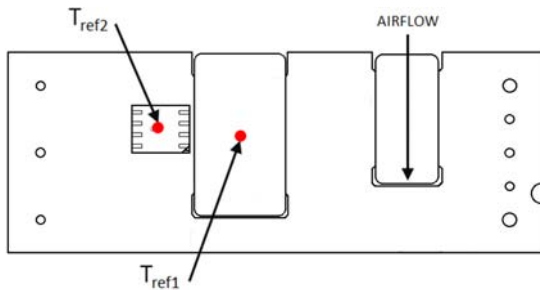

Figure 13. T_{ref} Temperature Measurement Location for open Frame Module.
To provide protection under certain fault conditions, the unit is equipped with a thermal shutdown circuit. The unit will shutdown, if the thermal reference point (Figure 13), exceeds $T_{ref1} = 133^{\circ}C$ or $T_{ref2} = 140^{\circ}C$ (typical), but the thermal shutdown is not intended as a guarantee that the unit will survive temperatures beyond its rating. The module will automatically restart upon cool-down to a safe temperature.
The thermal reference points, T_{ref1} and T_{ref2} used in the specifications for open frame modules is shown in Figure 13. For reliable operation T_{ref1} should not exceed 128°C, and T_{ref2} should not exceed 123°C.